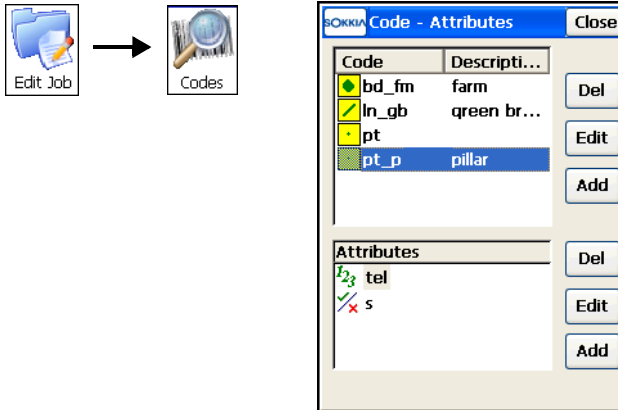
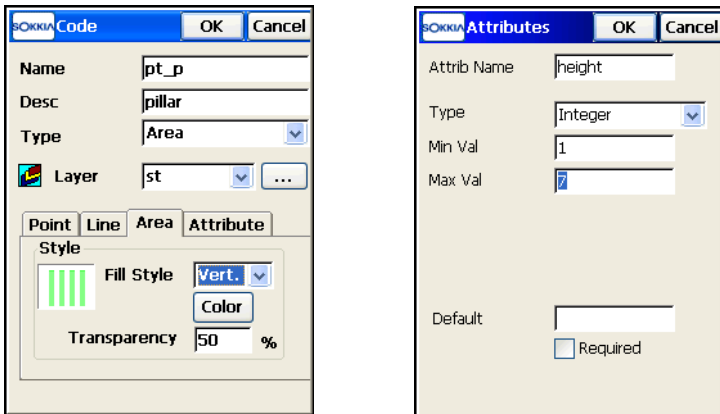
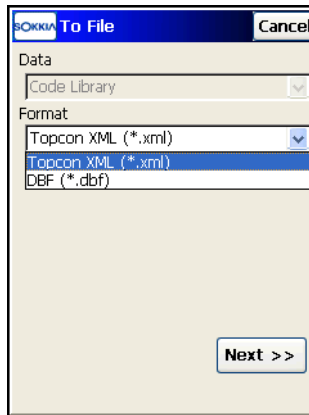

Figure 6-17. Code - Attributes
Figure 6-18. Edit Codes / Attributes
Figure 6-19. Export to Code Library
To edit codes and attributes, tap **Edit Job ▶ Codes**. Codes already in use cannot be edited or deleted. The *Code - Attributes* screen displays (Figure 6-17).
1. To add a code, tap the **Add** button on the right side of the screen. The *Code* screen displays. Enter the code name and description (if needed). Select the type of code (from *Point*, *Line*, *Area*) and the layer that the code will be stored to. Set the Code Style to represent points, lines and areas with this code on the selected layer (Figure 6-18 on page 6-13). On the *Attributes* tab, select a radio button for the prompt for code at the beginning of a line or at every point along the line. Tap **OK**.
2. To define the attributes for the new code, select the code and tap the **Add** button on the right side of the screen. Set the name, type, and parameters of the attribute for the code on the *Attributes* screen (Figure 6-18 on page 6-13). Attribute type indicates whether attribute values can be set as boolean *True* or *False*, or selected from a list of available values, or are alphanumeric strings, integers or real numbers. Check and enable the *Required* box to always use the default value of the code. Tap **OK**.
3. To edit a code or attribute, double-tap the object or select it and tap the corresponding **Edit** button (Figure 6-17 on page 6-12). In the *Code* or *Attribute* screen, make changes and tap **OK** (Figure 6-18).
4. To delete a code or attribute, highlight it in the list and tap the corresponding **Del** button (Figure 6-17 on page 6-12). Codes being used in points and their corresponding attributes cannot be deleted.
5. To export the code library to the selected file format, select the *Export To File* option (Figure 6-19 on page 6-14) from the Help Icon menu in the upper-left corner of the *Code - Attributes* screen (Figure 6-17 on page 6-12).